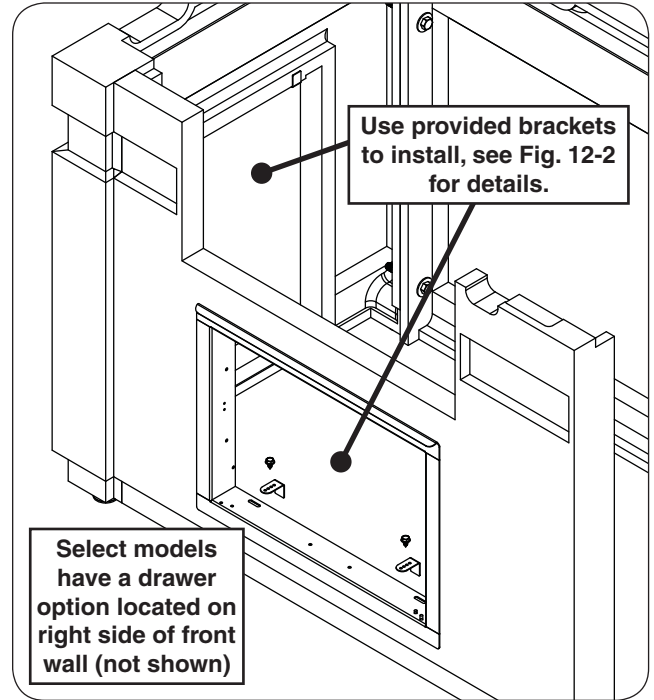
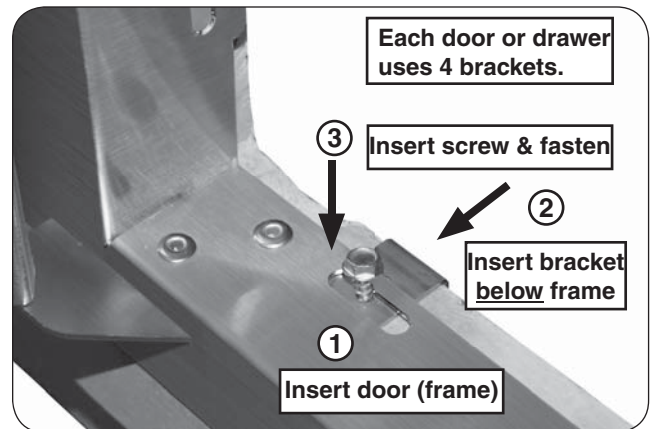

Fig. 12-1 Door / drawer install locations
Fig. 12-2 Door / drawer install detail
The drawers/doors for your island are purchased separately. Review the instructions provided with your accessories. See Fig. 12-1 for install locations.
1. Insert your drawer/ door completely into the appropriate opening. Ensure it is flush against the exterior wall (see Fig. 12-1 and Fig. 12-2, step 1).
2. The door will have 2 oblong cutouts (or round holes) on both the top and bottom of its frame. Insert a bracket where a cutout exists, **below the frame**. See Fig. 12-2, step 2.
3. While squeezing the rear of the bracket and the front of the door frame **firmly** against the concrete wall, insert a hex screw and tighten with the power drill and 5/16" hex driver (see Fig. 12-2, step 3). **DO NOT OVERTIGHTEN**